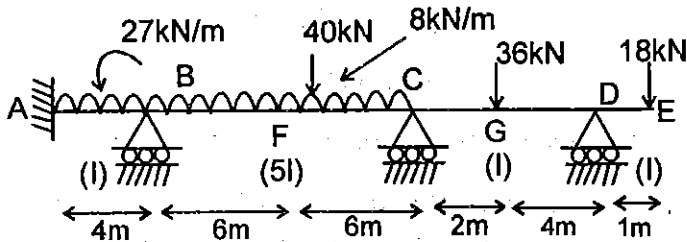

Fig. 1
- (b) Analyze the beam as shown in Fig. 1 by slope deflection method and draw shear force and bending moment diagram.